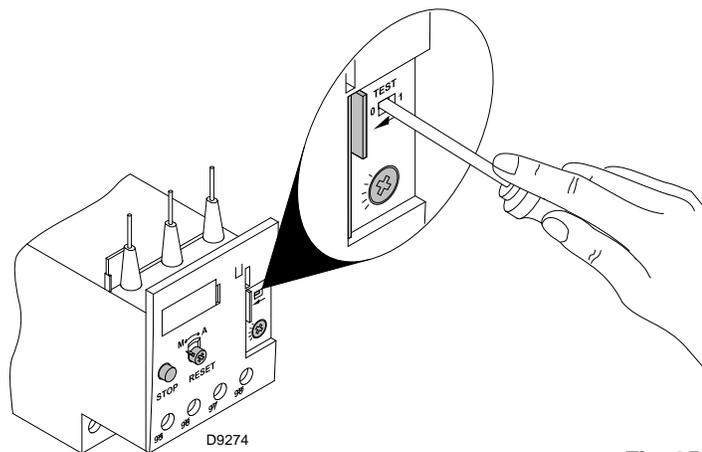

Fig. 35
- To test the thermal relay, insert a screwdriver in the window "TEST" (Fig. 35) and move it in the sense of the arrow (towards right).